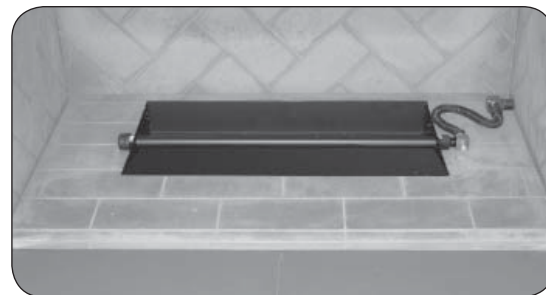

Fig. 11-2 Center burner in fireplace
4. Place the burner system in the fireplace. Center the burner from left to right in the fireplace. See Fig. 11-2.